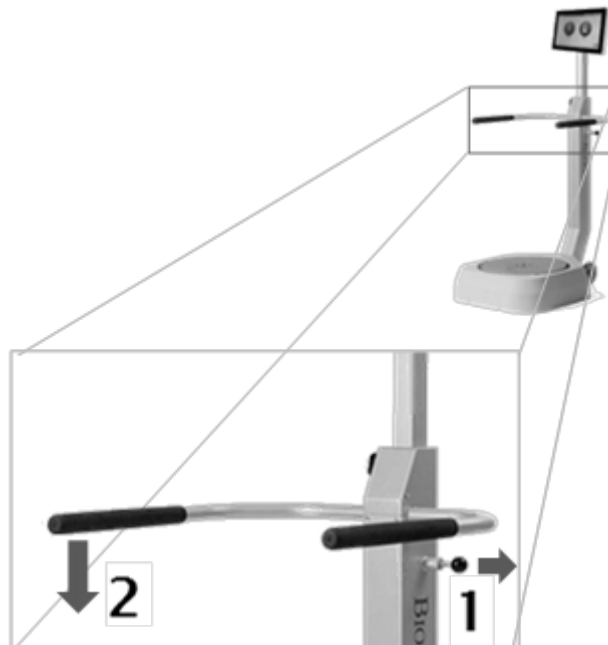

Figure 4.1. Adjusting the Support Rails.
- Adjust the support rails for comfort and safety. The rails protect a new or unstable patient from unexpected movement of the platform. Patients progress from leaning on the support rails to not using them (see Figure 4.1).